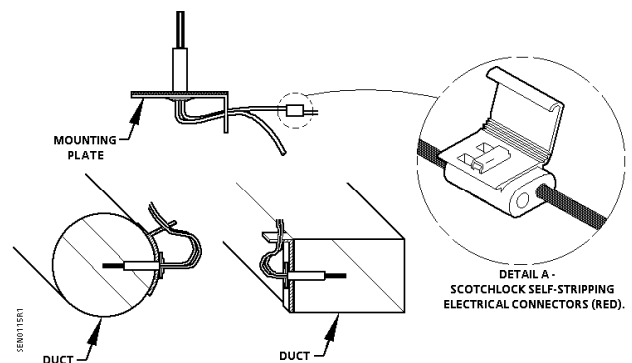

Figure 2. Single Point Thermistor Sensor Mounted on a Square or Round Duct.
- Use the two 3M[®] Scotchlock self-stripping, red electrical connectors to wire the sensor to the field wiring. No wire stripping is required to use the connectors. See Detail A in Figure 2. These connectors will accept 22 to 16 AWG solid or stranded wire.